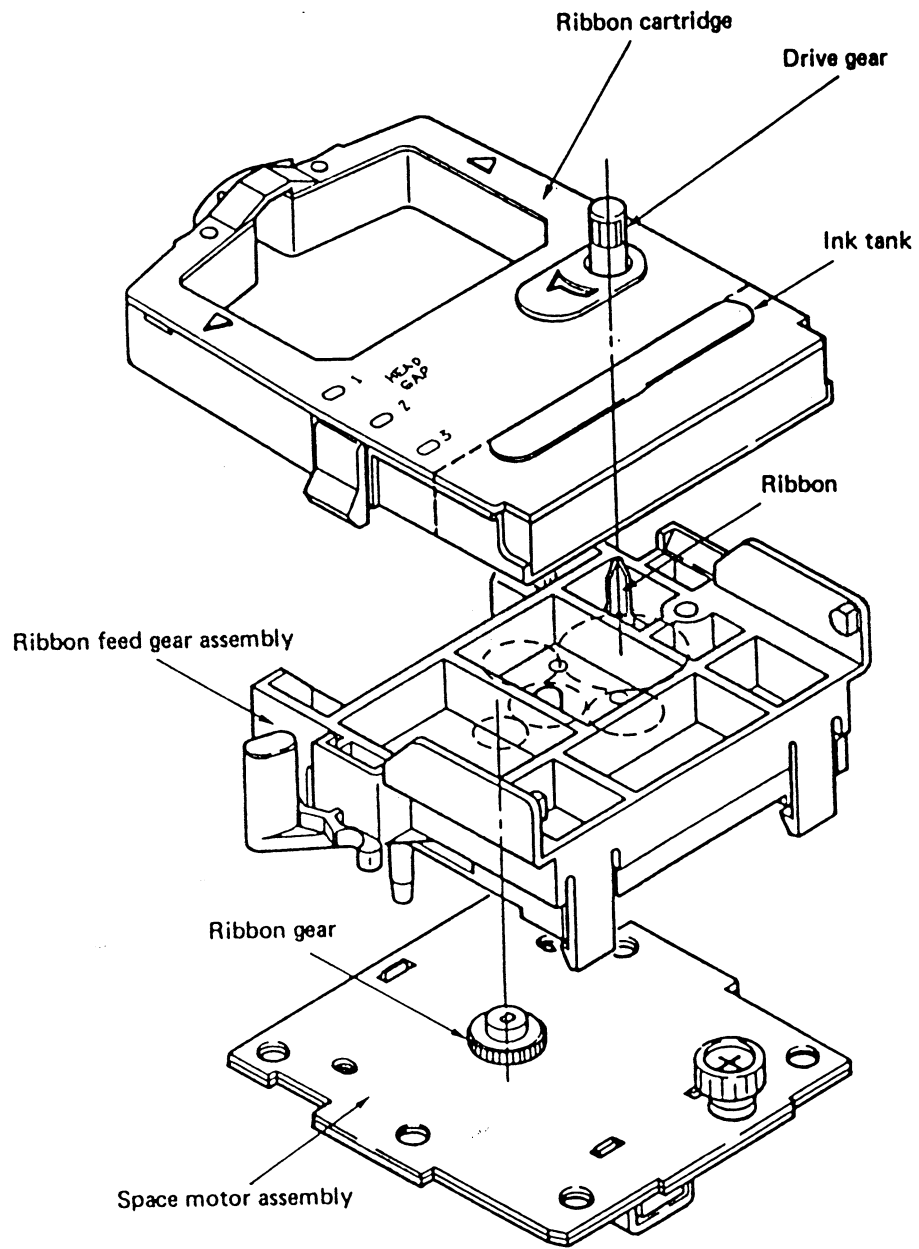

Figure 6
3.2.4 Ribbon Feed Mechanism and Operation (see figure 6)